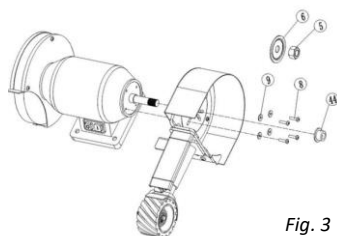

Fig. 3
1. Remove the grinding wheel and shield, keeping the nut (#5) and wheel flange (#6) in a safe location for future applications (Fig. 3).
2. Put the locating sleeve jig (#44) on the motor shaft against the motor end cap (Fig. 3).
3. Install the sanding belt frame onto the motor shaft using the flat washers (#9) and screws (#8). Ensure they are properly tightened (Fig. 3).